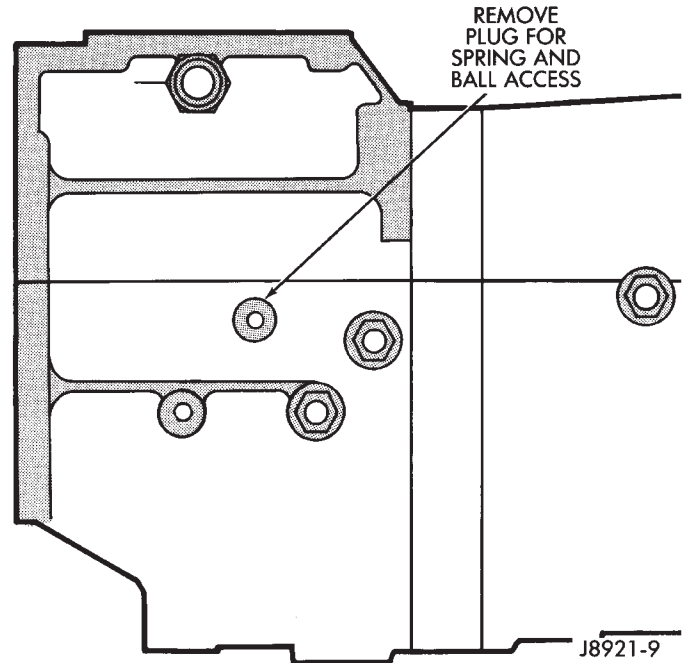

Fig. 10 Detent Ball Plug Location
(5) Remove detent spring and ball. Remove detent plug (Fig. 10) and remove detent spring and ball with pencil magnet.